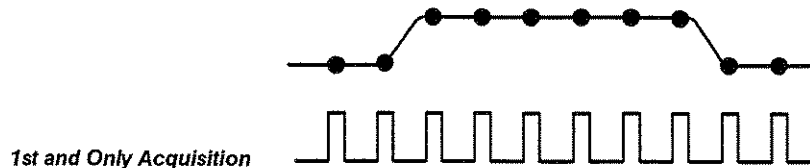

Figure 2-16: Real-Time Sampling
Real-Time Sampling – In real-time (RT) sampling, the oscilloscope digitizes all the points it acquires in one trigger event (Figure 2-16). Use real-time sampling to capture single-shot or transient events.